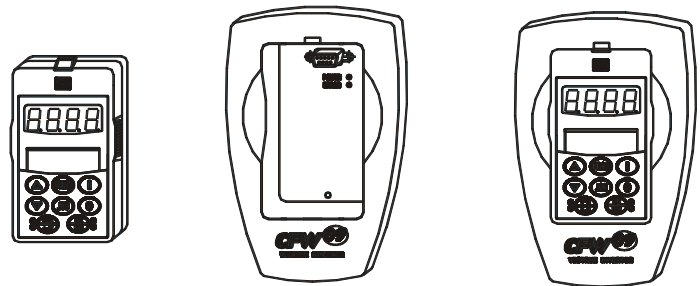

Figure 8.13 - Standard HMI, remote HMI frame kit and HMI CFW09 – LCD N4 for panel installation
The keypad cable must be installed separately from the power cables, following the same recommendations as for the CC9 control board (refer to item 3.2.6). For assembling refer to details in figure 8.13 and 8.14.